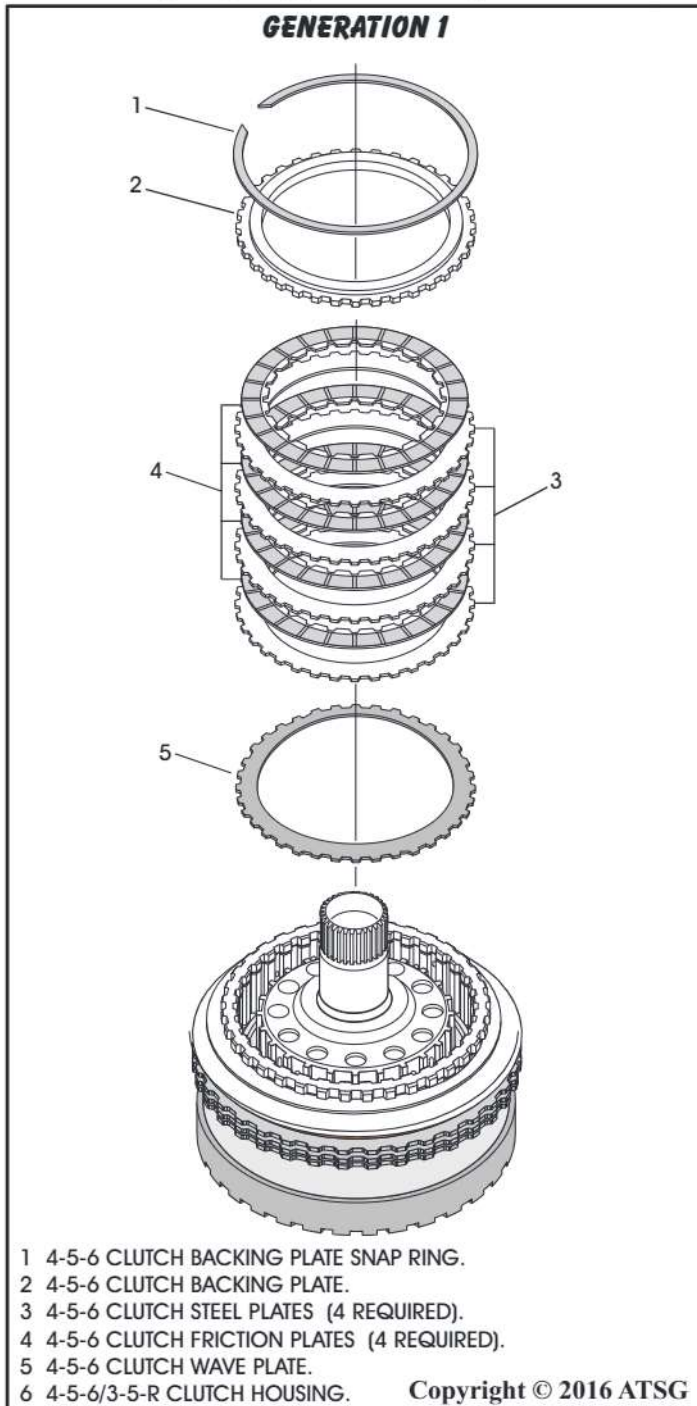

Figure 118
83. Install the 4-5-6 clutch wave plate into the clutch housing as seen in Figure 118.
84. Starting with a steel plate, install four friction and four steel plates in an alternating fashion as shown in Figure 118.
85. Install the 4-5-6 clutch backing plate and then the retaining snap ring as seen in Figure 118.